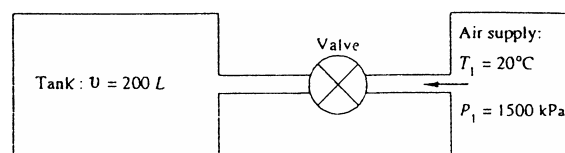

Fig. P3.143
3.143 The insulated tank in Fig. P3.143 is to be filled from a high-pressure air supply. Initial conditions in the tank are $T = 20^\circ\text{C}$ and $p = 200\text{ kPa}$. When the valve is opened, the initial mass flow rate into the tank is 0.013 kg/s . Assuming an ideal gas, estimate the initial rate of temperature rise of the air in the tank.